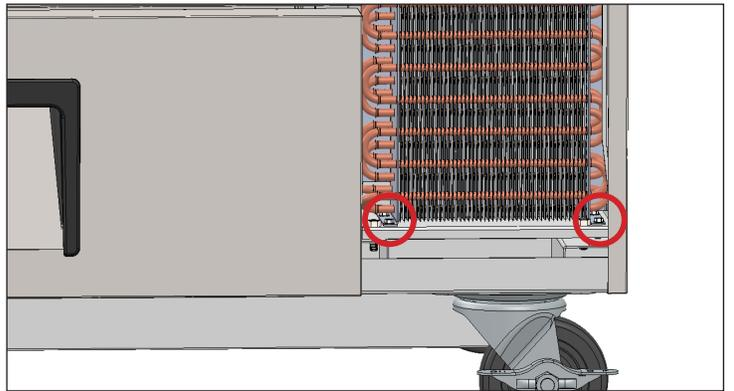

Fig. 4. Condenser base bolt locations.
5. Remove the condenser base bolts. See fig. 4.